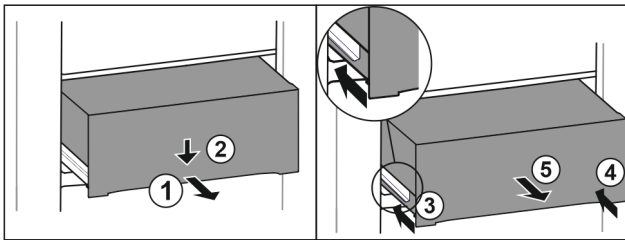

Fig. 69
- ▶ Pull out drawer half-way. Fig. 69 (1)
- ▶ Push the drawer down at the front. Fig. 69 (2)
- ▶ Push the left rail in by about 2 cm. Fig. 69 (3)
- ▶ Push the right rail in by about 2 cm. Fig. 69 (4)
- ▶ Remove drawer to the front. Fig. 69 (5)